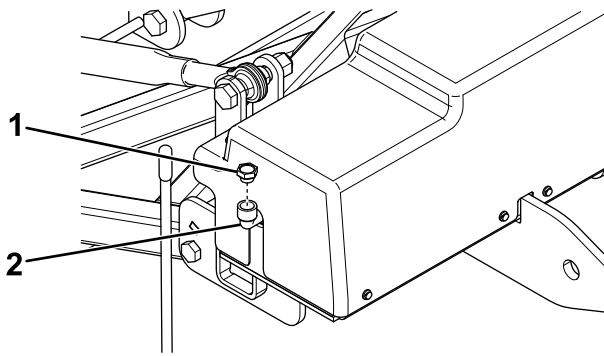

Figure 27
2. Clean the area around the fill cap (Figure 27).
3. Remove the fill cap from the hydraulic reservoir (Figure 27).
4. Slowly fill the reservoir with BOSS high-performance hydraulic fluid to the bottom of the fill elbow (Figure 27).